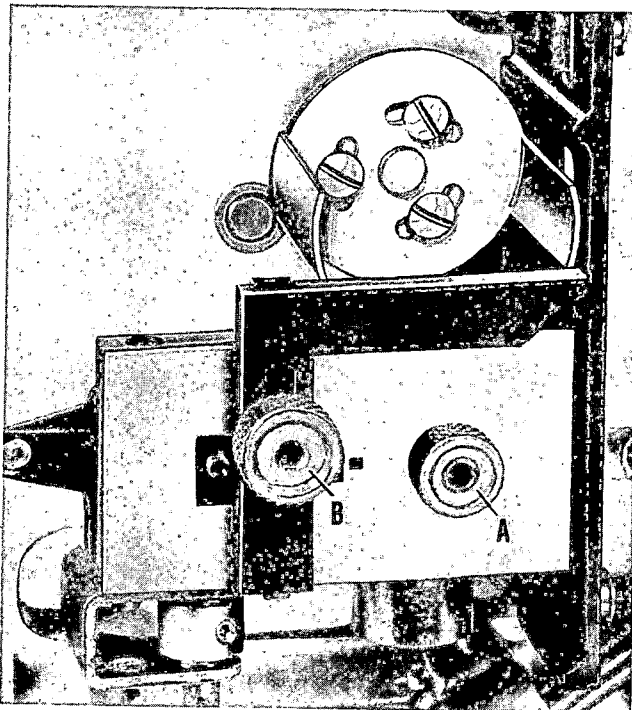

Figure 10. Synchronizing the Shutter and Intermittent Mechanism
h. Turn front camshaft (34) and rear camshaft (38) until the registration pin is to the right of the shaft (when facing mechanism plate). Rotate the shutter until the shutter blades form a parentheses ( ) above the camshafts. Install shutter and intermittent gage (Tool No. S-061081-N15) as shown in figure 10, and lock gage in place by installing knurled nut (A) on front camshaft. Loosen knurled nut (B) and raise the gage bar up against shutter blades. Tighten knurled nut (B) to hold gage bar in this position. Tighten set